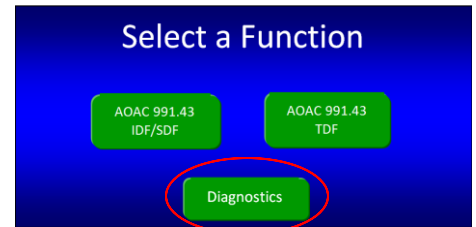

Figure 26
- Press the Diagnostics button on the "Select a Function" screen. See Figure 26.